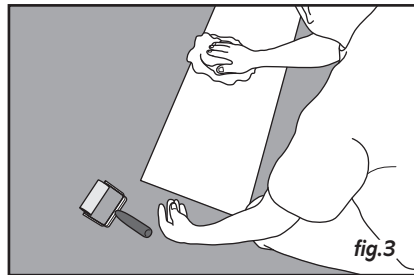

fig.3
- It is important to clean all of the panel's smooth surface (glue side) using a tack rag before each gluing session (fig.3).
- At the end of the joint, use a knife to cut off any excess filler but keep pressure on the end of the joint for about 15 seconds (fig.3).
- Spread the silicon joint using a fingertip (fig.3).